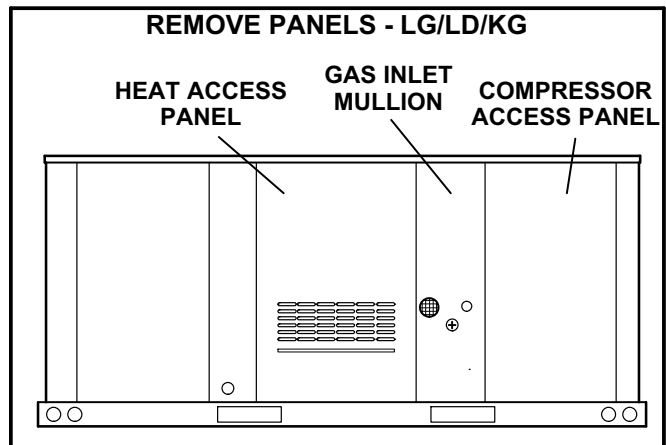

FIGURE 1
- 4- Open or remove heat and compressor access panels. See figure 1.
- 5- Remove the gas inlet mullion. See figure 1. If conduit is run to the mullion, move the mullion out of the way. Disconnect wiring and remove conduit if necessary.